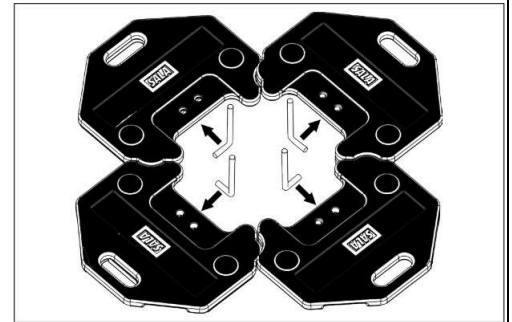

Figure 3
- Sweep the installation area free of loose materials, then layout four rubberized plates on a flat surface and Insert the “ L” Bolts into the raised slots. Alternate the direction of each L-bolt. See Figure 3, and 4